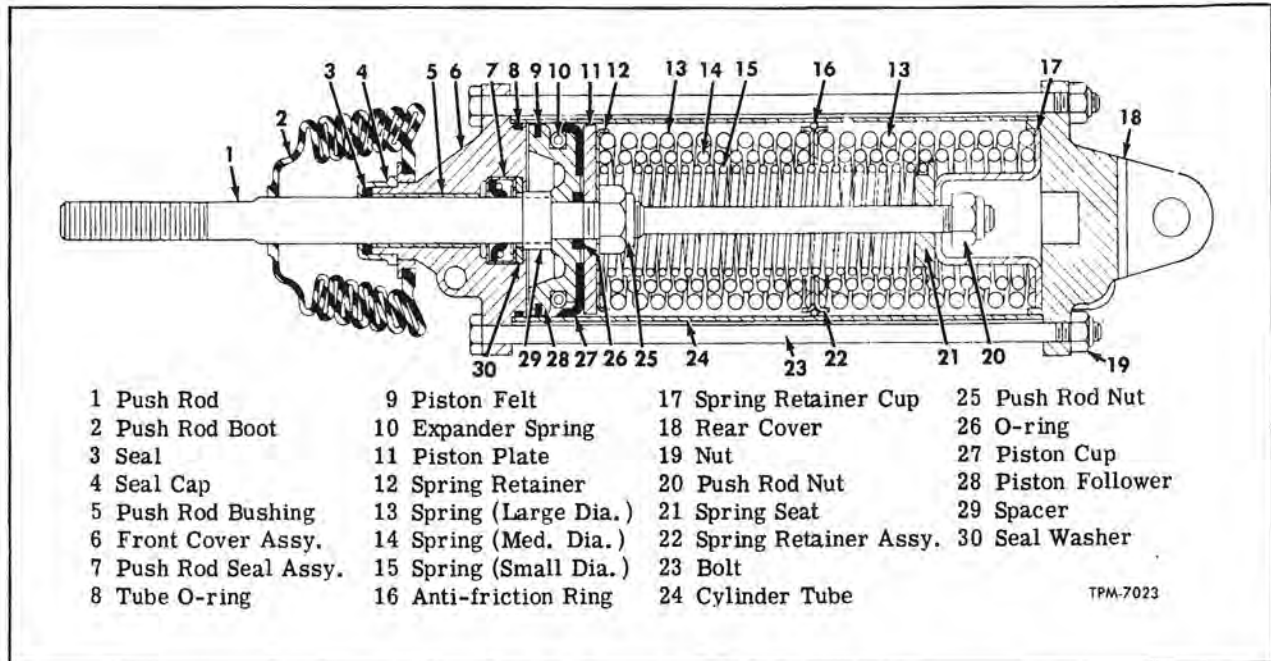

Figure 108—Clutch Control Air Cylinder Assembly
Clutch control air cylinder (fig. 108), pivot-mounted to side of compressor is employed to engage and disengage the compressor clutch. When cylinder push rod is retracted by air pressure supplied by the control air solenoid valve, clutch becomes engaged. When solenoid valve closes, exhausting air supply to cylinder, springs within cylinder extend the push rod to cause clutch to become disengaged.
NOTE: Key numbers in text refer to figure 108.
NOTE: Key numbers in text refer to figure 108. Refer to this view for positioning of parts when assembling unit.
1. Install new seal assembly (7) into front cover (6). Install seal washer (30). Stake washer in four places.
2. Slide small diameter end of push rod (1) into boot end of front cover (6) and through seal.
3. Place spacer (29) into position on push rod.
4. Place piston follower (28) on push rod, then install small O-ring (26) into recess of follower.
5. Referring to figure 108 for proper positioning of parts, install piston felt (9) and expander spring (10) into grooves of follower (28). Install piston cup (27), piston plate (11), spring retainer (12) and new push rod nut (25). Tighten nut firmly.
6. Place push rod and front cover in arbor press fixture, then position springs (14 and 15), and two larger diameter springs (13) with spring retainer (22) located between springs. Locate